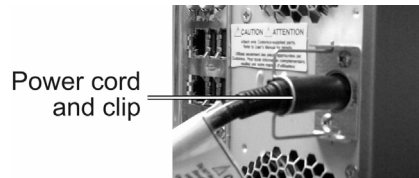

Figure: 5
1. Disconnect the power cord from the original Infinity C chassis and connect to the power connector on the back of the replacement chassis. Use the retaining clip to secure the cord (see Figure 5).